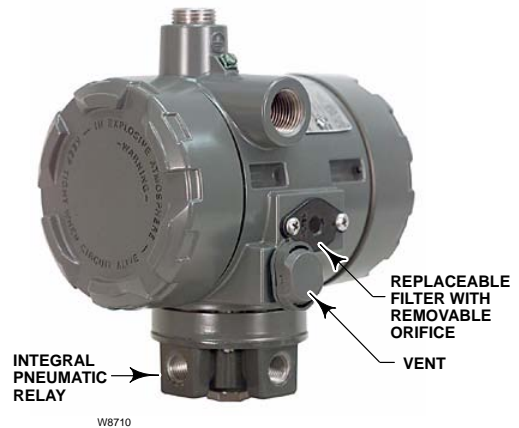

Figure 1. Fisher® i2P-100 Electro-Pneumatic Transducer
The Fisher® i2P-100 electro-pneumatic transducer, shown in figure 1, uses a patented converter module that converts a milliampere input to a proportional pressure output. Both the current input and pressure output range are user-configurable in the field. The converter module uses small parts of minimum mass, which are balanced symmetrically around a pivot point at the center of the mass. This balanced arrangement results in a high performance instrument that reduces sensitivity to vibration.
- **Tolerant of Dirty Supply Medium**—Free-flow pilot stage design and large internal air passages provide excellent tolerance to dirty pneumatic supply, by reducing the effects of contaminant buildup and erosion. The removable primary orifice and replaceable 5 micron filter are easy to remove for service and maintenance (see figure 1).